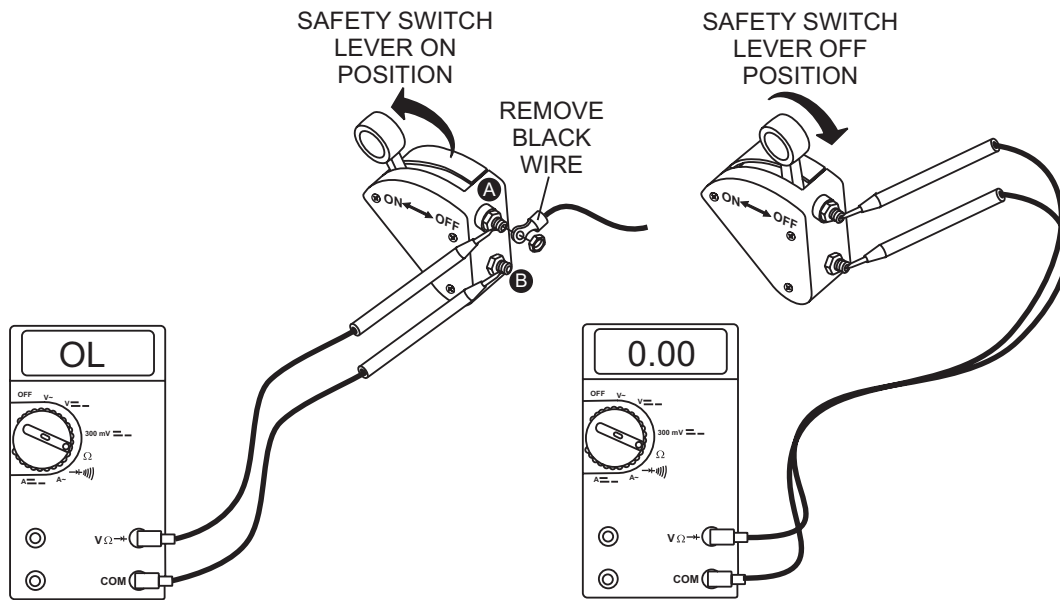

Figure 5. Continuity Test
- Using a multimeter check for continuity between terminals **A** and **B** (Figure 5) on the safety stop switch. There should be no continuity (open-circuit) with the safety switch lever placed in the **ON** position. Now place the lever in the **OFF** position, continuity (closed-circuit) should be present between terminals **A** and **B**. Note: remove the black wire connected to terminal **A** before performing measurement.